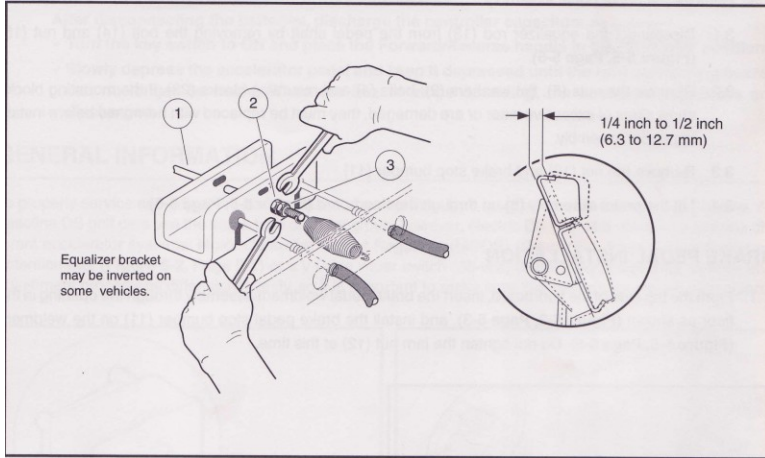

Figure 5-4
4. Tighten the nut (2) on the equalizer rod (1) so that brake pedal free-play is $\frac{1}{4}$ inch to $\frac{1}{2}$ inch (6mm to 13mm) (Figure 5-4)
5. Tighten the jam nut (3) while holding the adjustment nut (2) in the correct position (Figure 5-4).